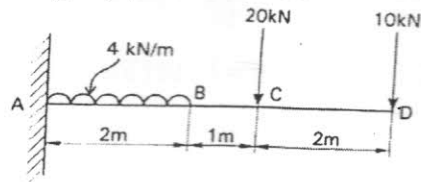

Fig. 7(b)
- b) Find the maximum deflection and the maximum slope for the beam loaded as shown in fig. 7(b). Take $E=200 \text{ kN/mm}^2$, $I= 40 \times 10^6 \text{ mm}^4$.